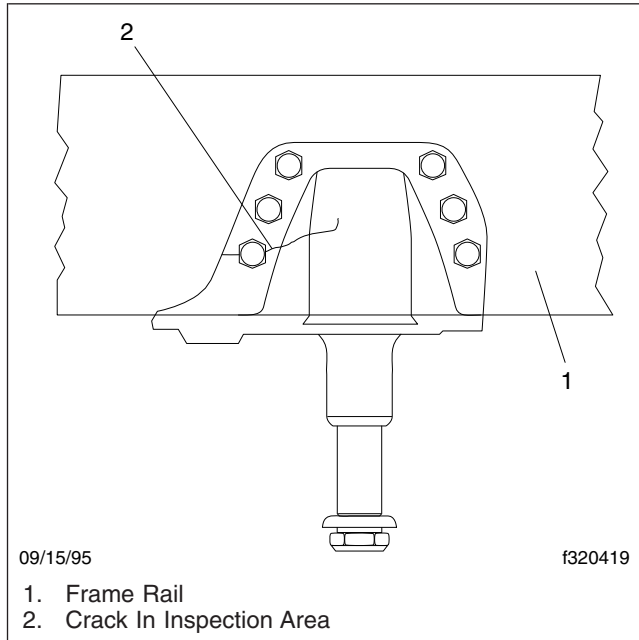

Fig. 9, Hendrickson RS Series Vertical Mounting Flange
2. Inspect each frame hanger for any evidence of cracks in the vertical mounting flange. See **Fig. 9**.